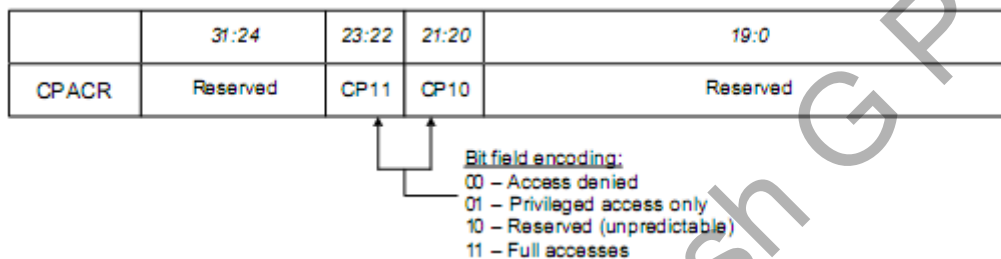

Figure 16: Bit field in CPACR
- By default the floating point unit is disabled to reduce power consumption. Before using any floating point instructions, the floating point unit must be enabled by programming the CPACR register is as shown in Figure 16 below